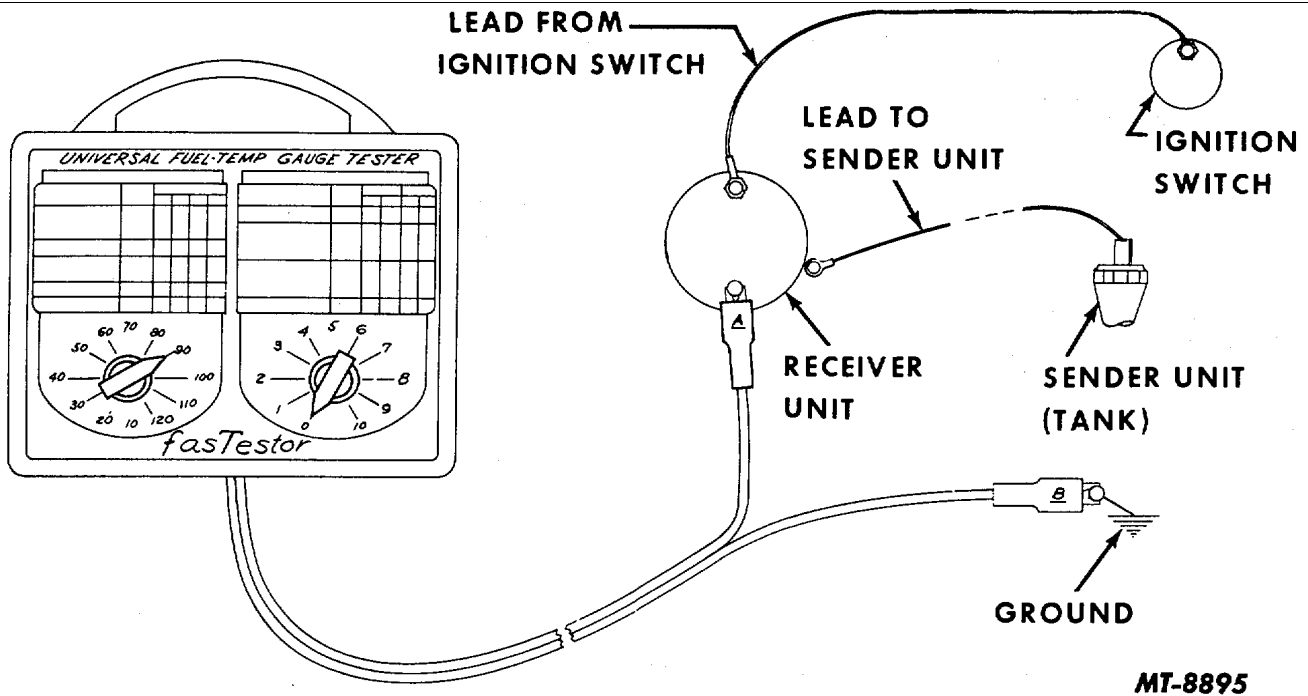

Fig. 25. Checking Fuel Level Gauge System Components
6. If receiver unit does not respond properly to above tests, disconnect tank sender unit to receiver wire from receiver unit terminal, Fig. 25.